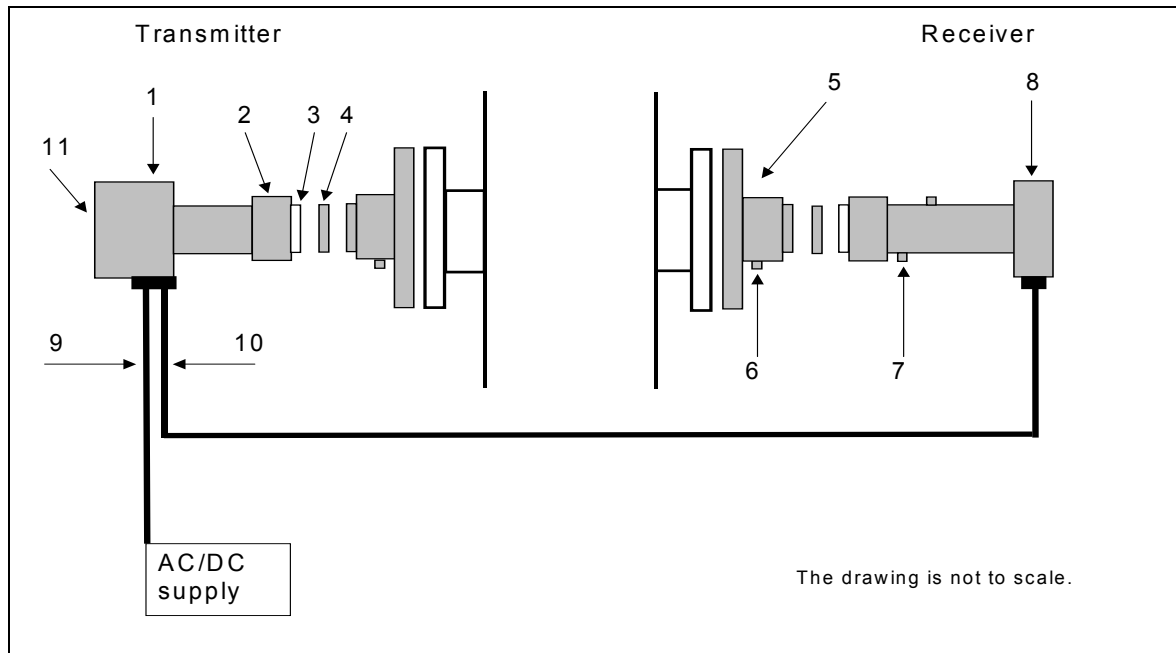

Figure 3-1: AO2000-LS25 units and their main components
Both transmitter and receiver units have environmental protection IP66, and the standard optical windows withstand pressures up to 5 bar (absolute pressure). The monitor is installed by assembling the transmitter and receiver units with the supplied purging & alignment units, which in turn are mounted onto the DN50 process flanges (see Figure 3-1). The optical alignment is easy and reliable, and the purging prevents dust and other contamination from settling on the optical windows.
The installation procedure described in this section refers to Figure 3-1.
2. Remove the adapter ring (no.4 in Figure 3-1) from the transmitter alignment & purging unit.
1. Remove the adapter ring (no.4 in Figure 3-1) from the receiver alignment & purging unit.